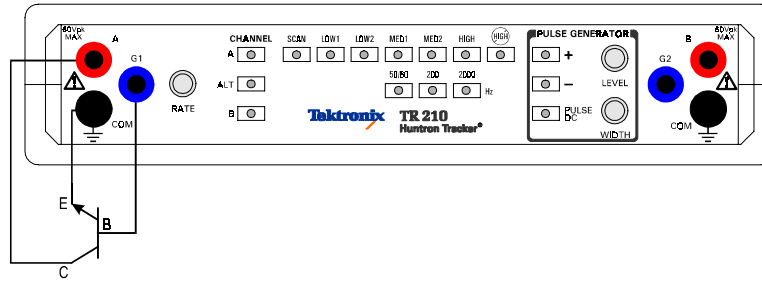

Figure 5-27. Pulse Generator Test Circuit for a NPN Transistor.
Figure 5-27 shows the test circuit for a NPN transistor using the pulse generator to drive the base. The constant current signature produced is similar to that produced by a transistor curve tracer except that only one curve is shown instead of a family of curves. This technique can be useful for functionally testing and matching transistor gain characteristics.
1. Setup the test circuit shown in figure 5-27 or 5-28 depending on what type of bipolar transistor you wish to test.